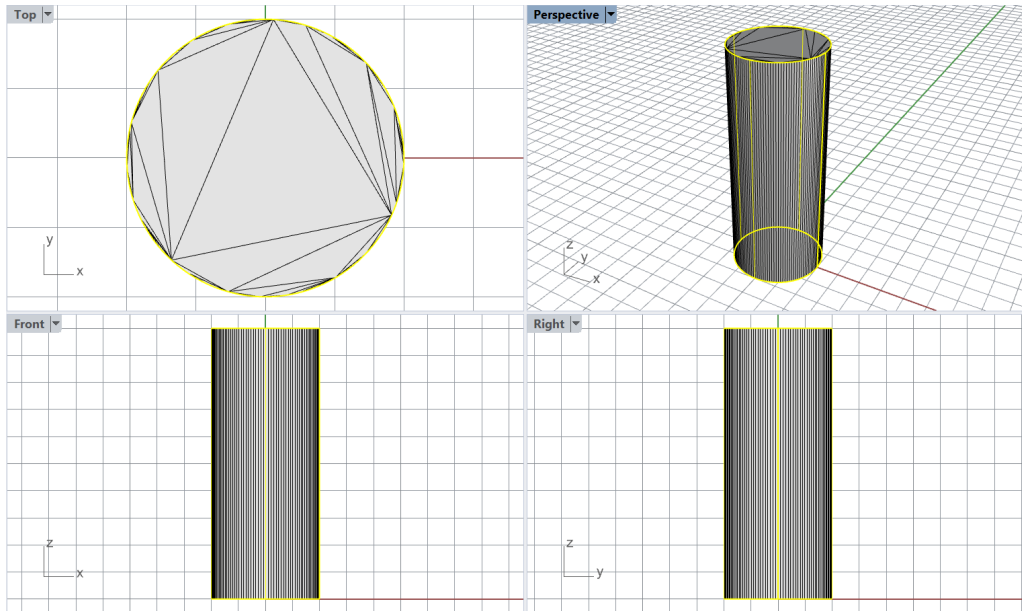

Figure 2: Original highlighted cylindrical surface and the newly created surface mesh superimposed on it.
5. In the simplified dialog, move the slider all the way to the right towards **More polygons** and click **OK** to create the initial surface mesh (Figure 2).
6. While the original cylindrical surface is still highlighted (seen in light yellow in Figure 2), type the **_Hide** command to hide it, making only the surface mesh visible. This triangular surface mesh serves as input to *Griddle* tools for unstructured meshing.